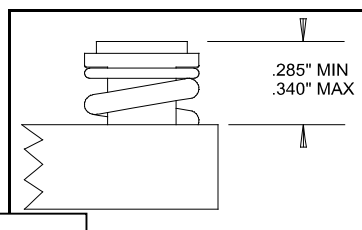

Figure 4
8. **Check spring height. (See Fig. 4)**
The clutch is designed to work within adjustment limits. Do not exceed the limits or damage to clutch will occur. (**See Fig. 4**)
9. Now adjust the Springs to .325". see fig 4